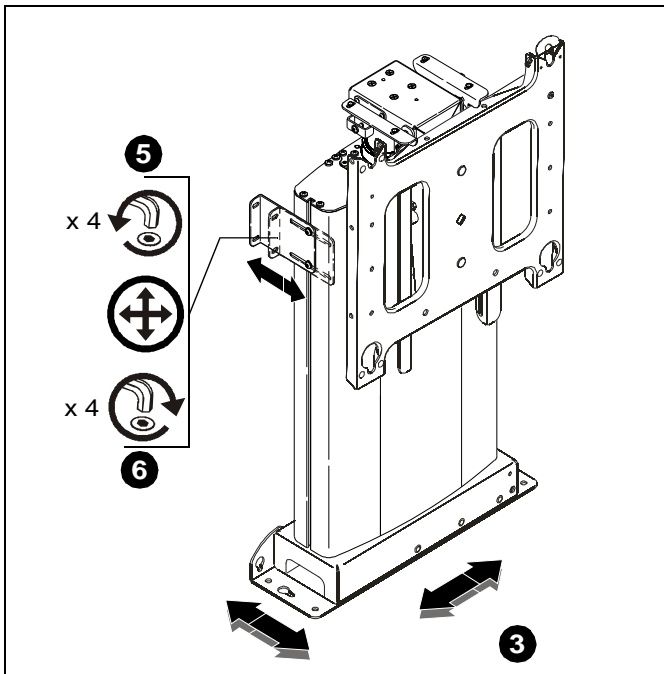

Figure 23
4. Position mount until base is properly positioned and side mounting brackets are in line with vertical supports. (See Figure 23)